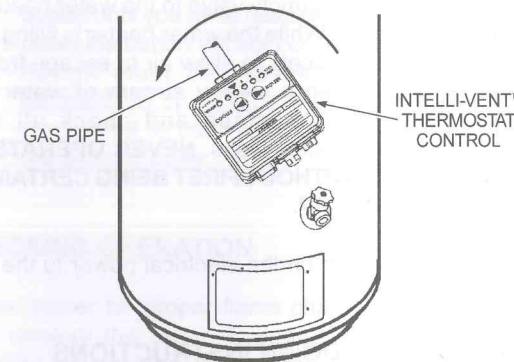

FIGURE 7.
10. Using your hand, grasp the straight pipe attached to the Intelli-vent™ Thermostat Control, and rotate it counter-clockwise until the valve is fully disconnected from the water heater, see Figure 7.